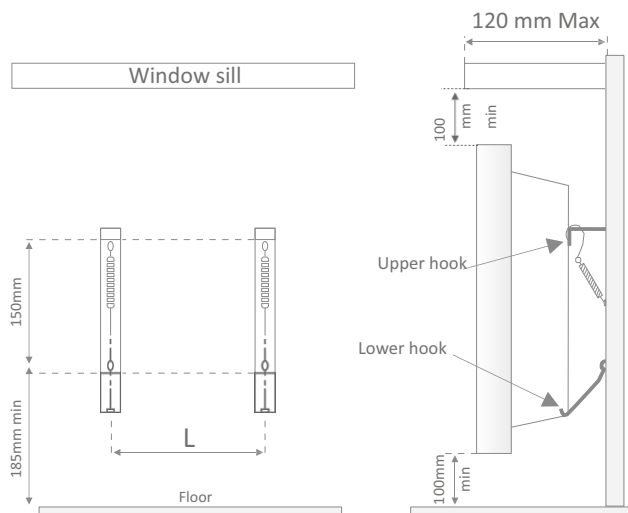
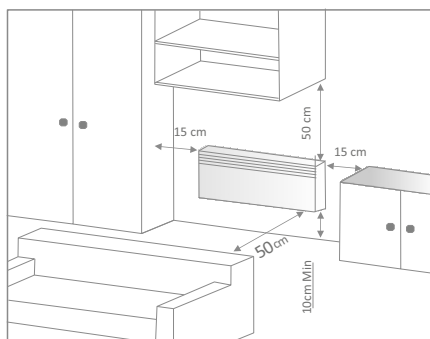

Figure 1
Figure 3
5.3 - For stationary installation of the radiator, mark the mounting holes on the wall (see Figure 1, Table 2) and attach the radiator mounting brackets with screws. Maintain the minimum distance between the radiator surface and objects in the room, as shown in Figure 3. Hang the radiator on the upper hooks of the mounting brackets (there are two rectangular holes on the rear wall of the radiator for this purpose), while the lower hooks of the bracket must touch the rear wall of the radiator (do not use excessive force to avoid damaging the radiator casing or cover). Move the radiator upwards until the lower hooks of the bracket fit into the holes in the lower grille of the radiator.